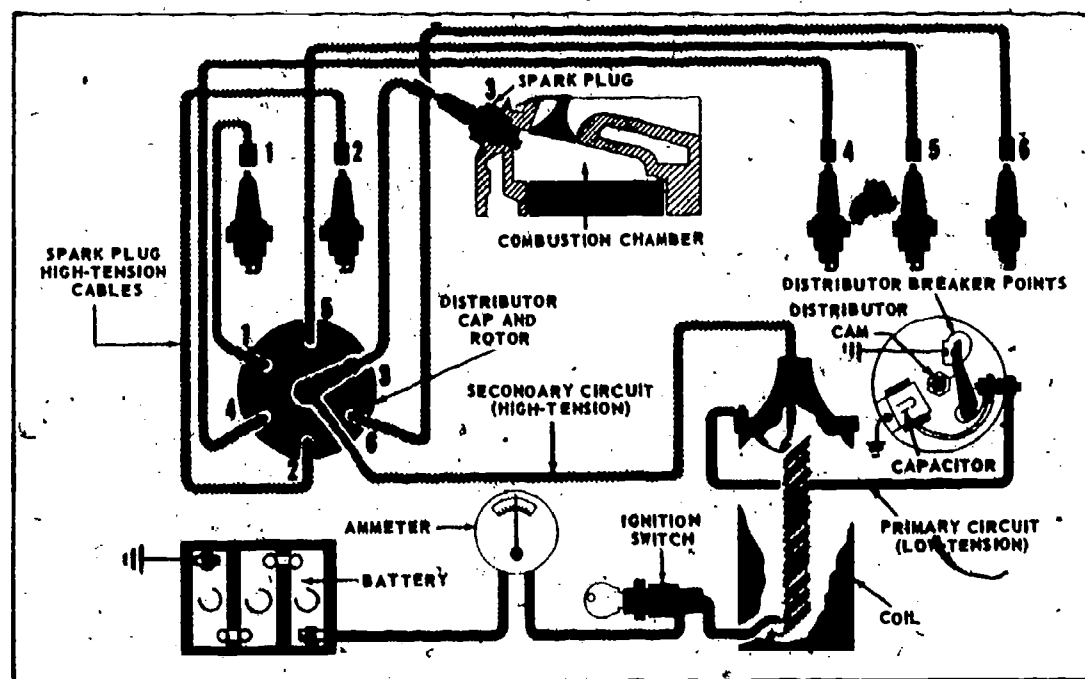

Fig 2-13. Schematic wiring circuits of a battery ignition system.
- (1) Battery ignition (fig 2-13). A primary (low) voltage from the electrical energy produced by a battery or generator produces a secondary (high) voltage and is distributed to the proper spark plug for igniting the air-fuel mixture in the combustion chamber.